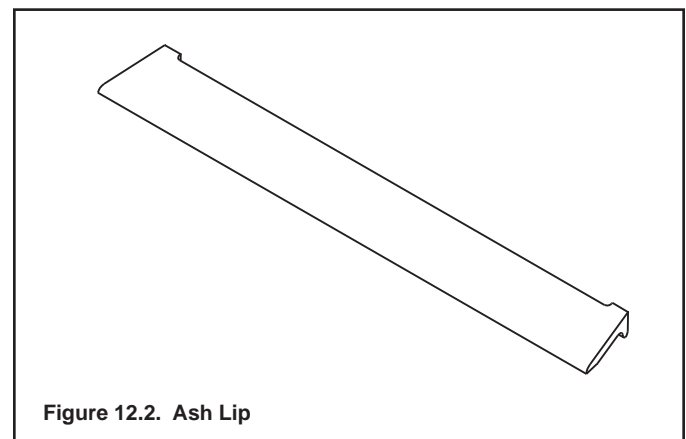

Figure 12.2. Ash Lip
- Remove the ash lip (see Figure 12.2) that is located in front of the glass.